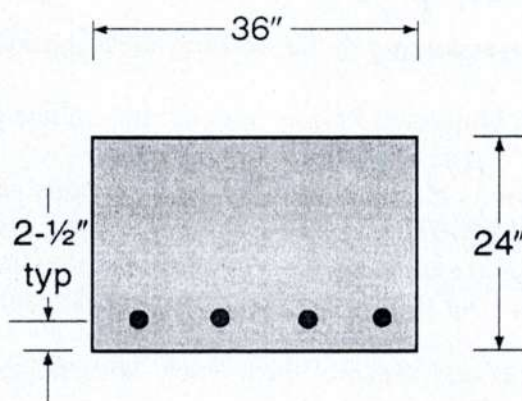

Figure- 01
- 2.a) Compare the cracking moment based on the gross section properties and the transformed section properties with four No. 11 bars as shown in Figure- 01. Concrete tensile capacity is $7.5 \sqrt{f_c'}$. **05**